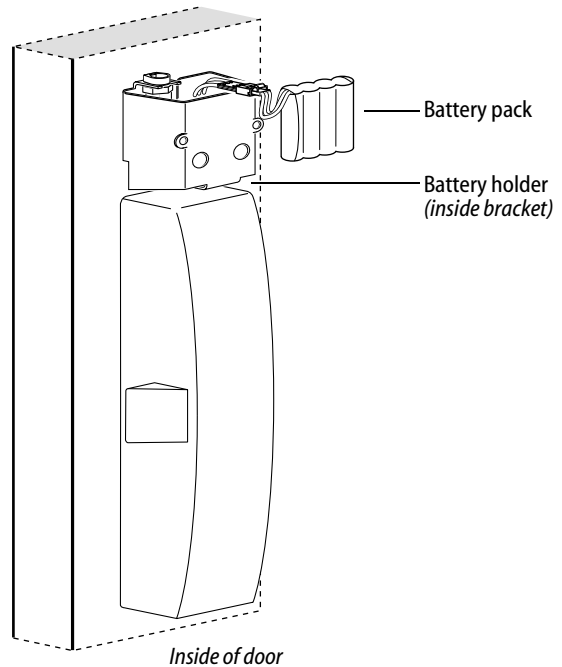

Figure 13 Connecting the battery pack
- 1 Connect the battery pack to the battery connector on the wire harness as shown in Figure 13.